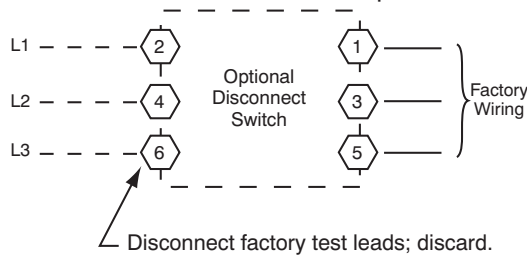

Fig. 16 - Power Wiring Connections
Field power wires are connected to the unit at line-side pressure lugs on compressor contactor C and indoor fan contactor IFC or terminal board (see wiring diagram label for control box component arrangement) or at factory-installed option non-fused disconnect switch. Max wire size is #2 AWG (copper only). (See Fig. 16)
The factory-installed option disconnect switch is located in a weatherproof enclosure located under the main control box. The manual switch handle is accessible through an opening in the access panel. Discard the factory test leads (see Fig. 16).
All field wiring must comply with NEC and all local codes. Size wire based on MCA (Minimum Circuit Amps) on the unit informative plate. See Fig. 16 and the unit label diagram for power wiring connections to the unit power terminal blocks and equipment ground. Maximum wire size is #2 ga AWG per pole.
2. Install power lines to terminal connections as shown in Fig. 16.